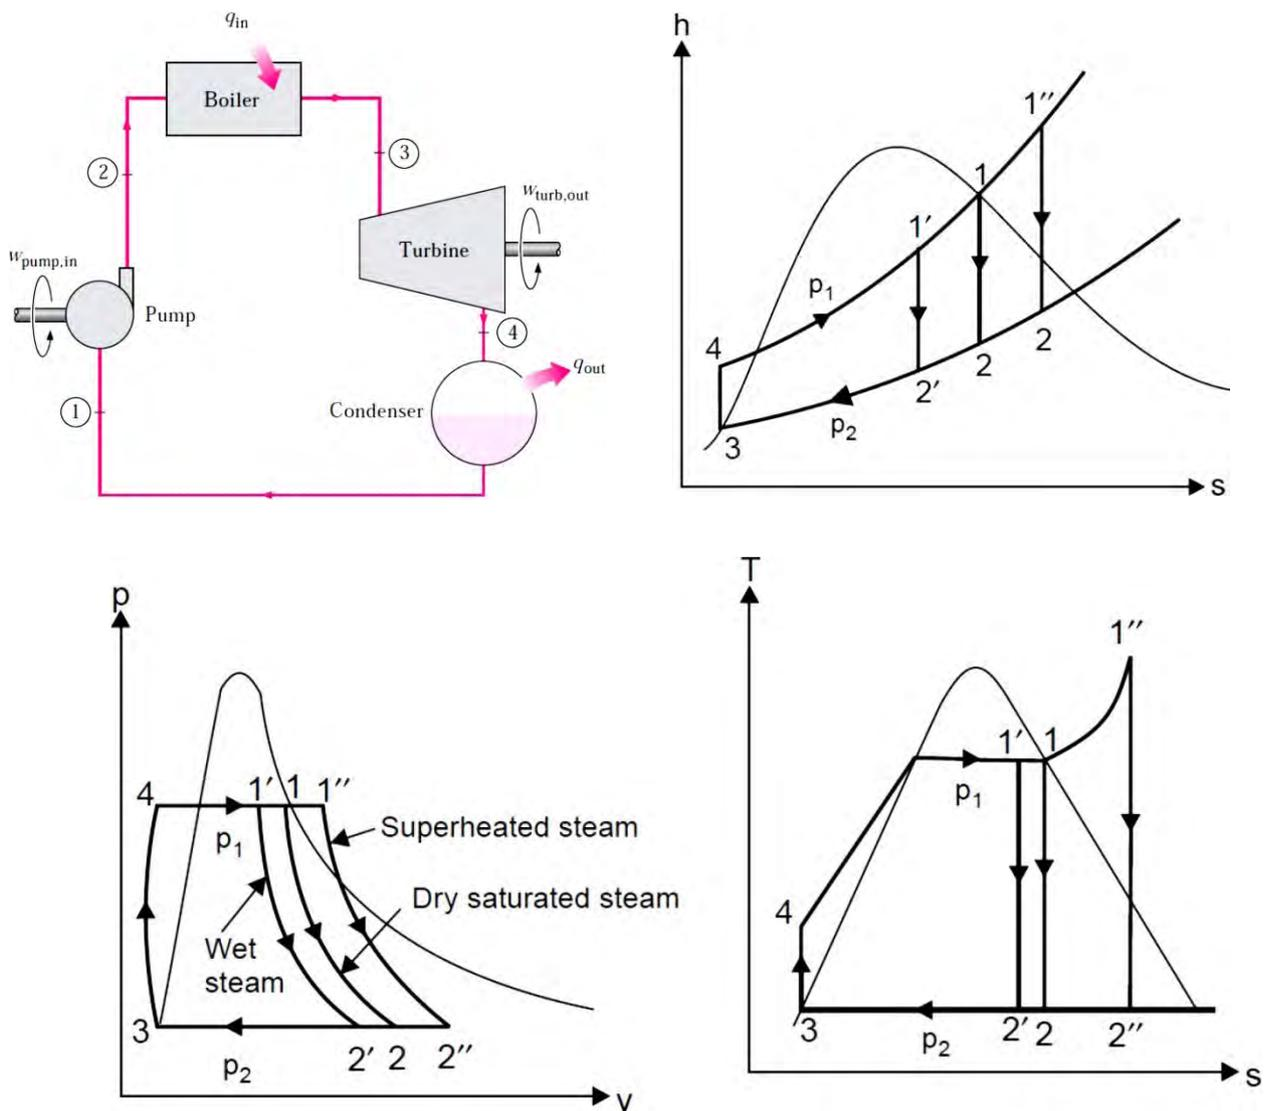

Fig. 6.2 P-v, T-S, h-S and schematic diagram of an ideal Rankine cycle
- The Rankine cycle is the ideal cycle for vapor power plants. The ideal Rankine cycle is shown schematically and on a P-v, T-s & h-s diagrams in Fig. 6.2. The liquid, vapor and wet regions are also indicated with the help of saturation curve.